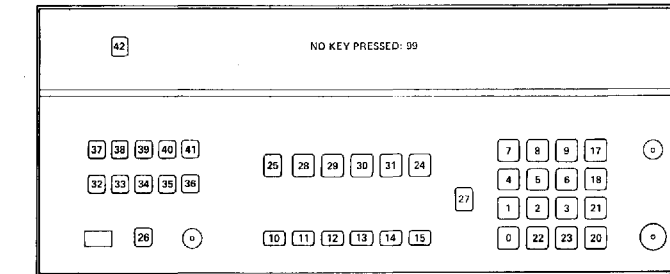

Figure 8-64. Key Codes for Service Special Function 60.0 Troubleshooting
3. Press the keys one at a time and compare the display with the key codes shown in Figure 8-64. If a code other than 99 appears in the display with no key pressed, the key corresponding to the displayed key code is probably stuck down; see Service Sheet 20. If a wrong code appears for one or more keys, check the corresponding key and decoder; see Service Sheet 20.